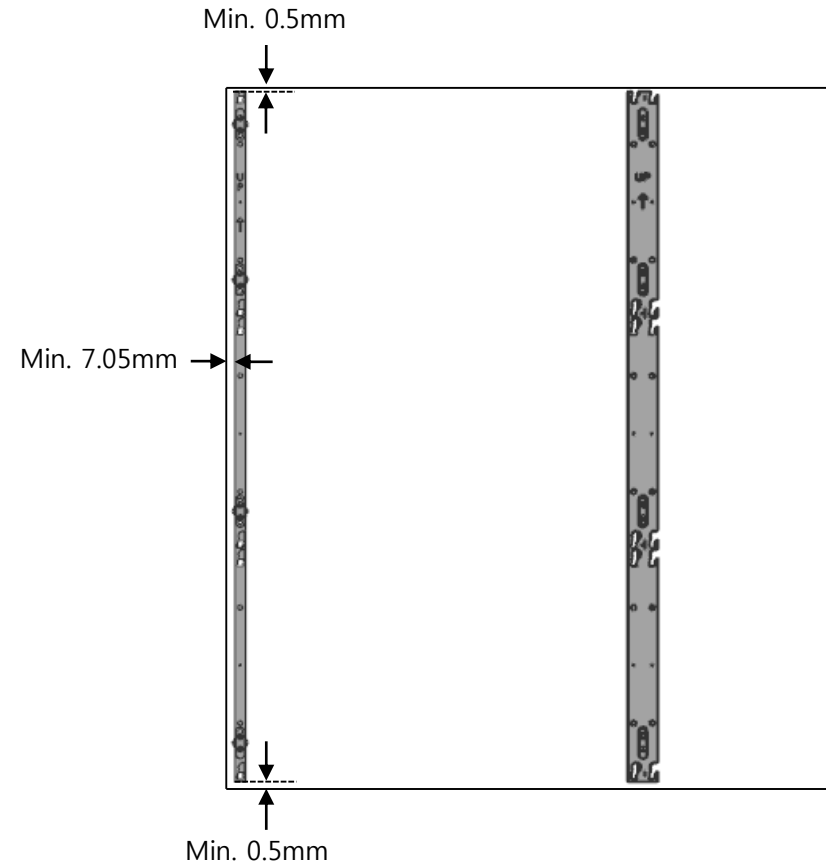

Fig.4 (Fastening position of the screen reference)
① Bracket Side is located at 7mm of the end line of the screen. (Fig.4)